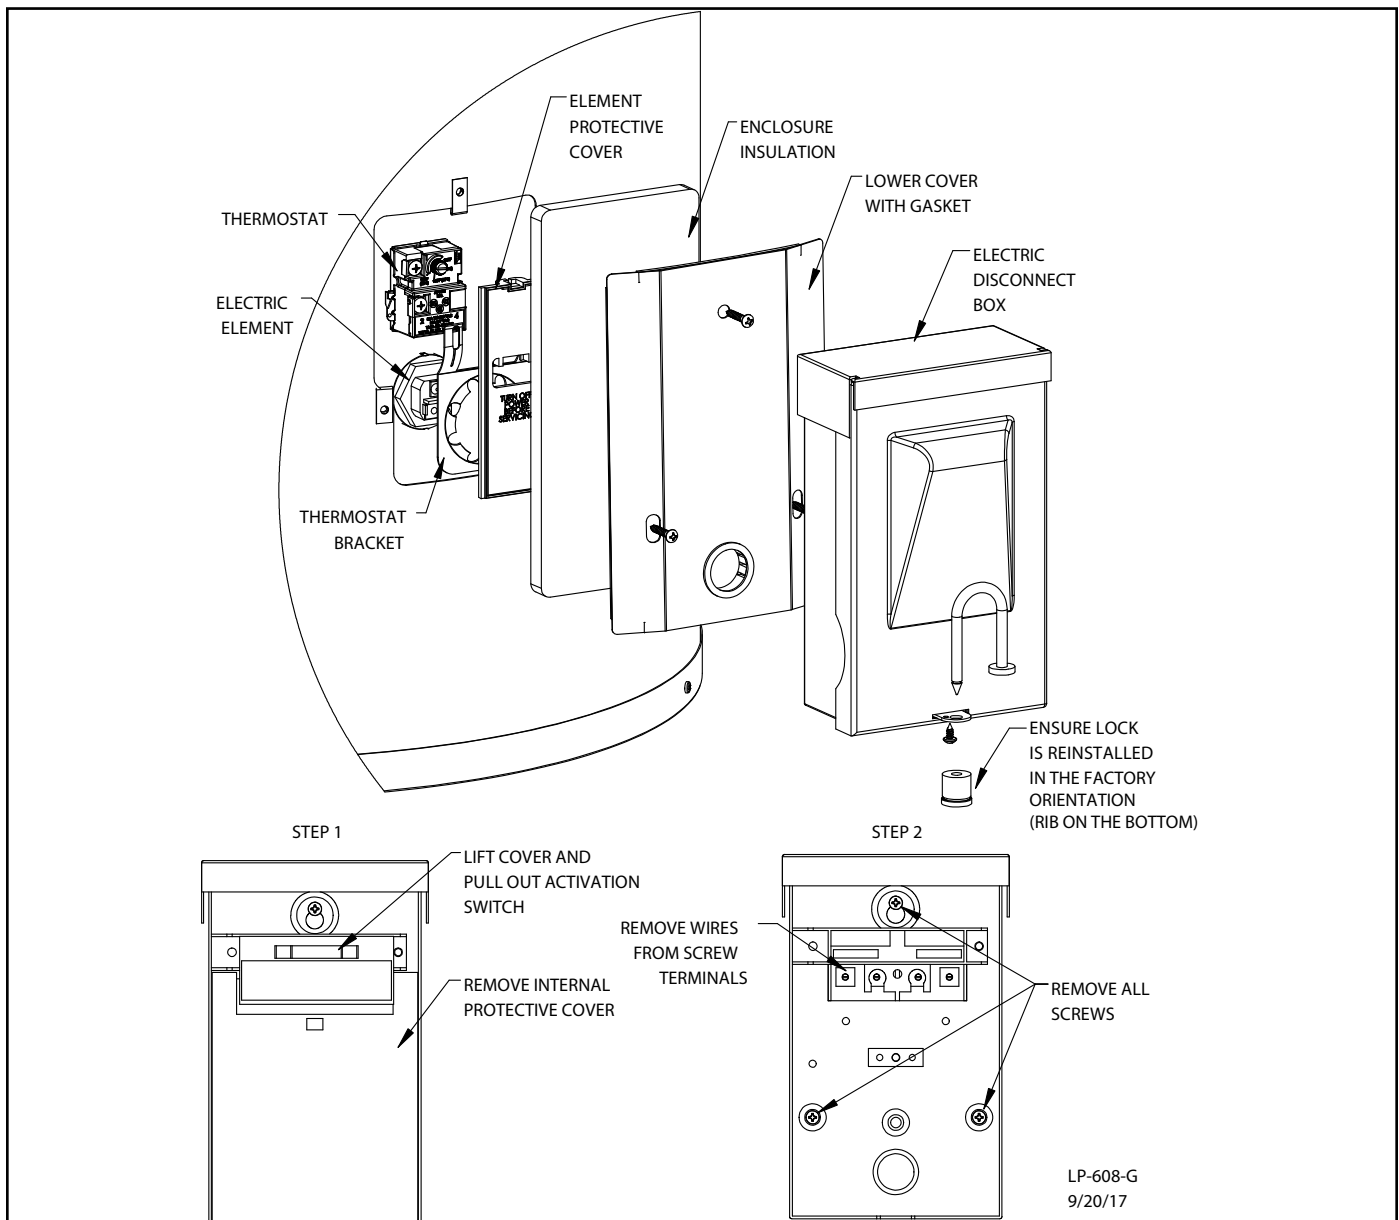

Figure 8 - Removing the Lock Box
NOTE: 80 gallon and larger water heaters are locked per Federal Regulations. The water heater is intended to be used for thermal energy storage by the utility. See Figure 8 for a detail of the lock. Contact the utility to unlock the box, enable the lower element, and adjust the lower thermostat.
STEP #1 - Lift the lock box cover. Pull out and remove the activation switch from its socket. Remove the internal protective cover. See Figure 8.
STEP #2 - Remove the wires from the screw terminals. Make note of wire locations for reinstallation. Remove the three (3) screws from the lock box. See Figure 8.